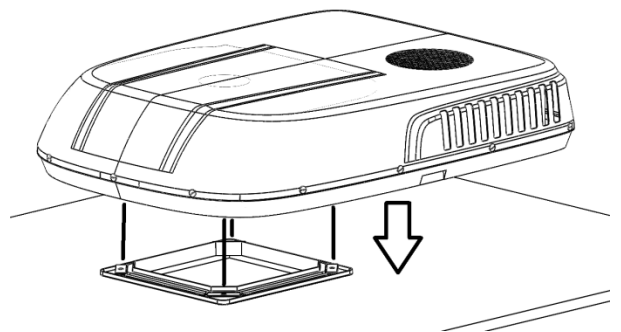

Figure 7– Lower & engage unit
- Position the unit over the 360 x 360mm hole with the weather collar installed. Figure 7